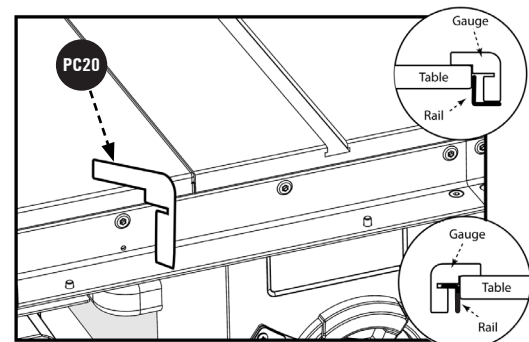

Figure 7
3. Use supplied Rail Alignment Gauge (HP20) to ensure the Rails are the proper distance from the top of the Table. See Figure 7.